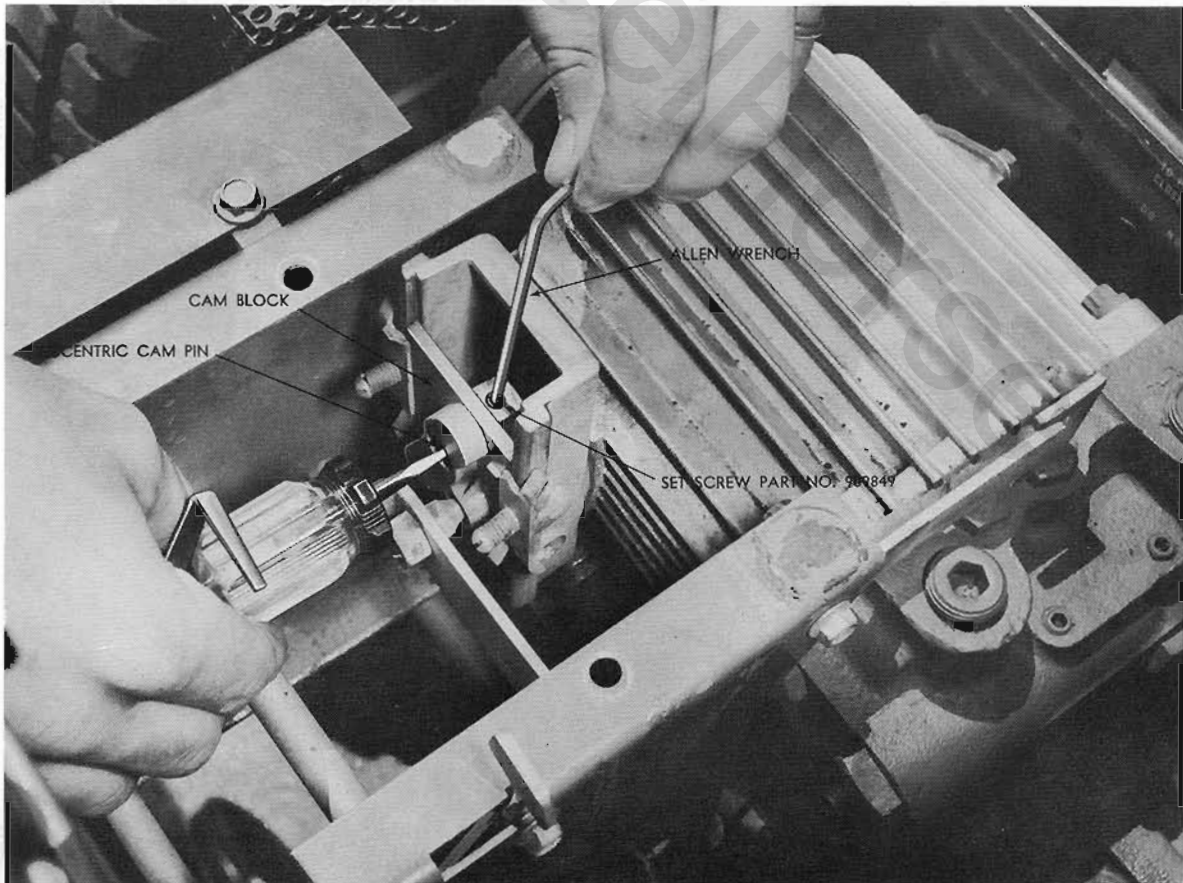

Figure 2
The control handle is friction loaded so it will hold at any desired speed. If the handle does not stay where it is set during operation, the friction may be increased by tightening the two screws that put pressure on the nylon cam (see Figure 2). **CAUTION.** Too much friction will cause erratic action on the control handle. **Do Not Lubricate Nylon Cam.**
B. To make neutral adjustment (See Figure 2).
3. Loosen set screw in arm with allen wrench (See Figure 2).